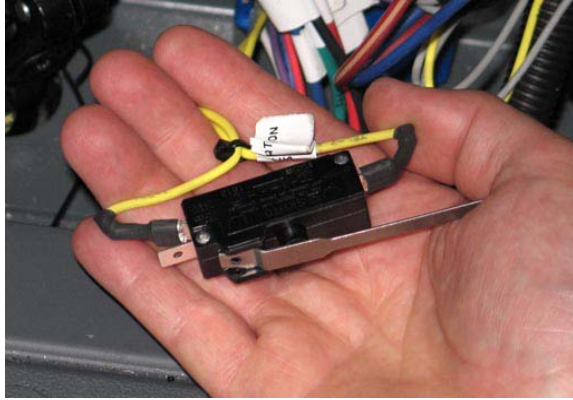
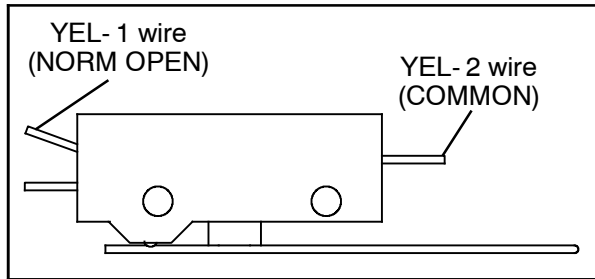

FIG. 5
FIG. 6
6. **Calibration:** Connect power steering wire harness YEL- 1 wire and YEL- 2 wire located near the controller to the switch (4). (Fig. 4 / Fig. 5 / Fig. 6)
13. **Calibration:** Disconnect the power steering wire harness YEL- 1 wire and YEL- 2 wire from the snap switch (3). (Fig. 4 / Fig. 5 / Fig. 6)